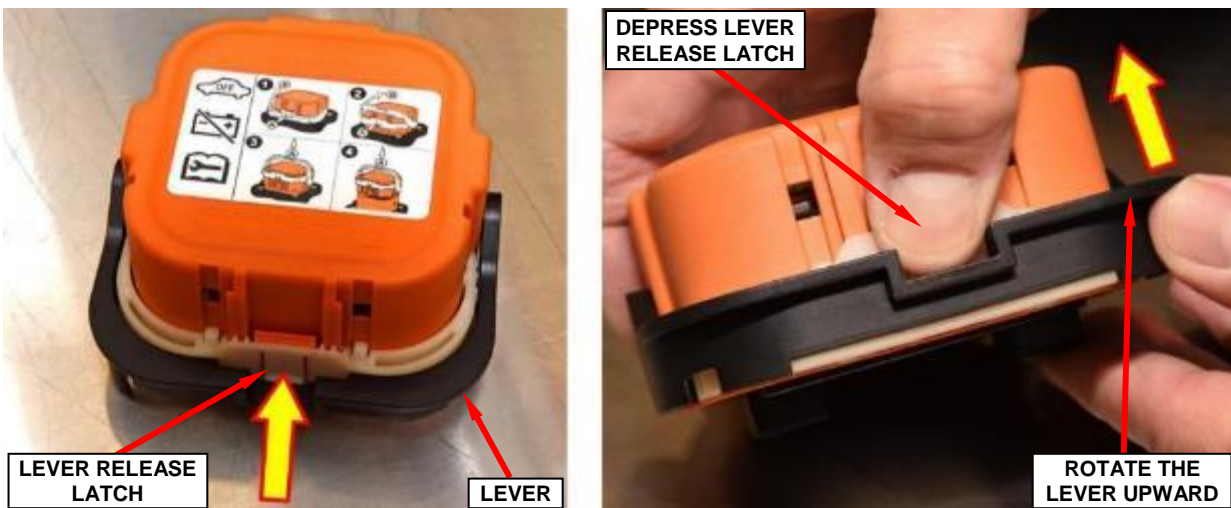

Figure 14 – High-Voltage Manual Service Disconnect First Stage Latch Release
6. Depress the lever release latch firmly. With the latch fully depressed, rotate the lever upward. The lever will stop at the 45° position (Figure 14).